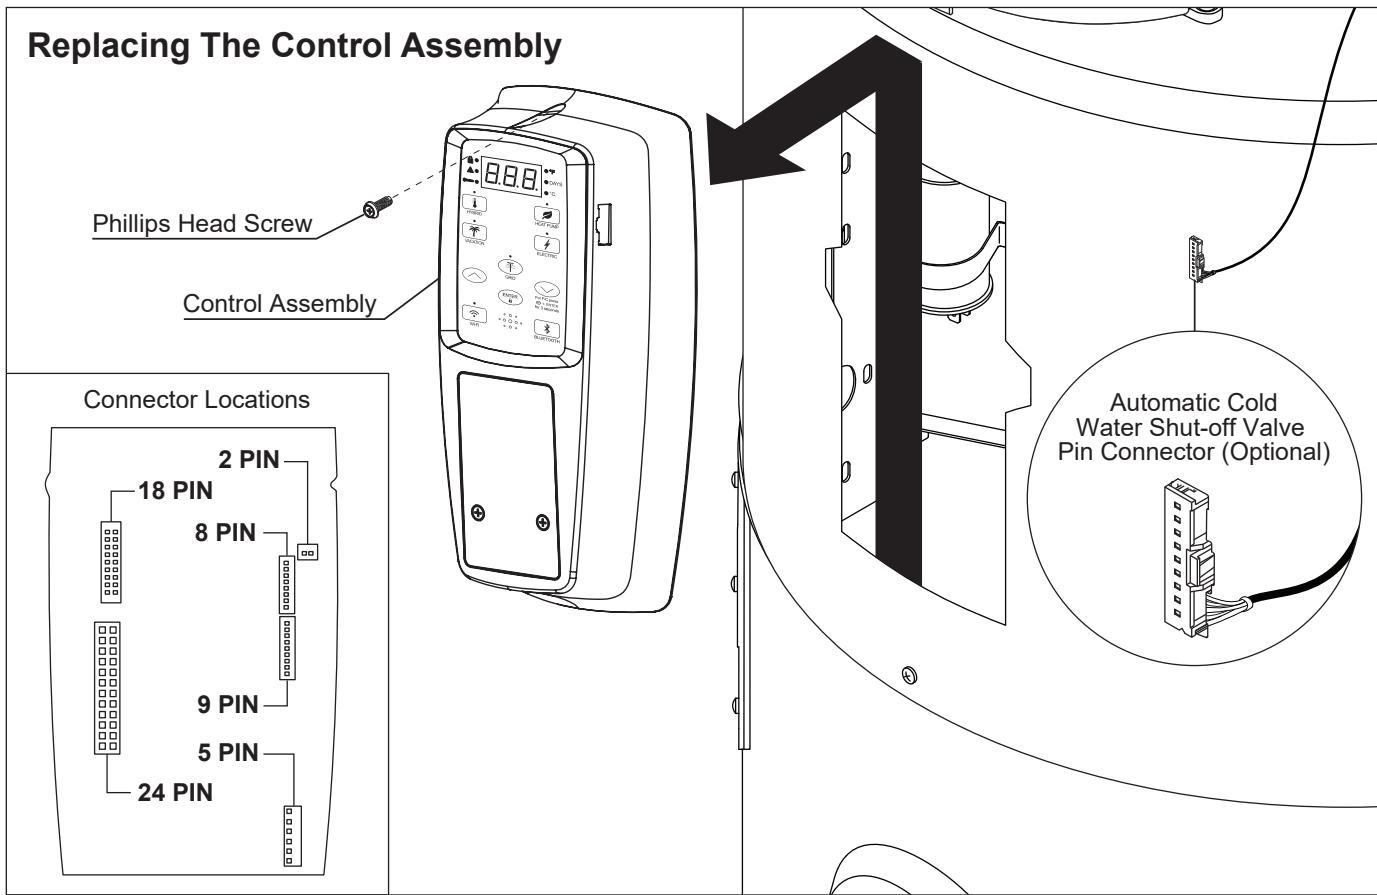

Figure 32 - Replacing the Control Assembly
- Remove the Phillips head screw from the control assembly and set it aside to be used with the new control assembly. If equipped, disconnect the automatic cold water shut-off valve pin connector from the right side of the control assembly and place it out of the way (see Figure 32 on page 29).
- Disconnect all six (6) connectors from the control assembly board. Properly dispose of damaged control assembly.
- Reconnect all six (6) connectors to the new control assembly by snapping them into place (see Figure 32 on page 29 for pin connector locations).